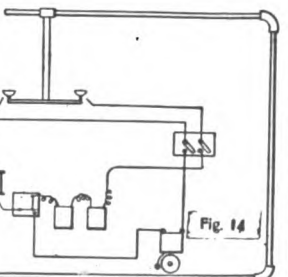
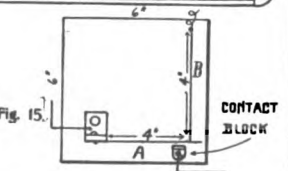

Fig. 14
Fig. 15
W. J. Barber, North Adams, Mass., comments on Mr. Williams' system as follows: "The alarm resistance wire should be of suitable size to operate upon the circuit in question. If of high resistance, or very long, or very fine wire, resistance wire should be fine also. In Fig. 15 the contact arrangement is shown. A is a spring tending to touch the contact block and B should be iron wire about 22 or 24 B. & S. gauge. (For wiring plan, see Fig. 14.) The idea is to let all the current that goes to lighter or burners traverse the spring and resistance wire, so that if it is on long enough to heat the same, it will expand and allow the spring to touch the contact of the bell